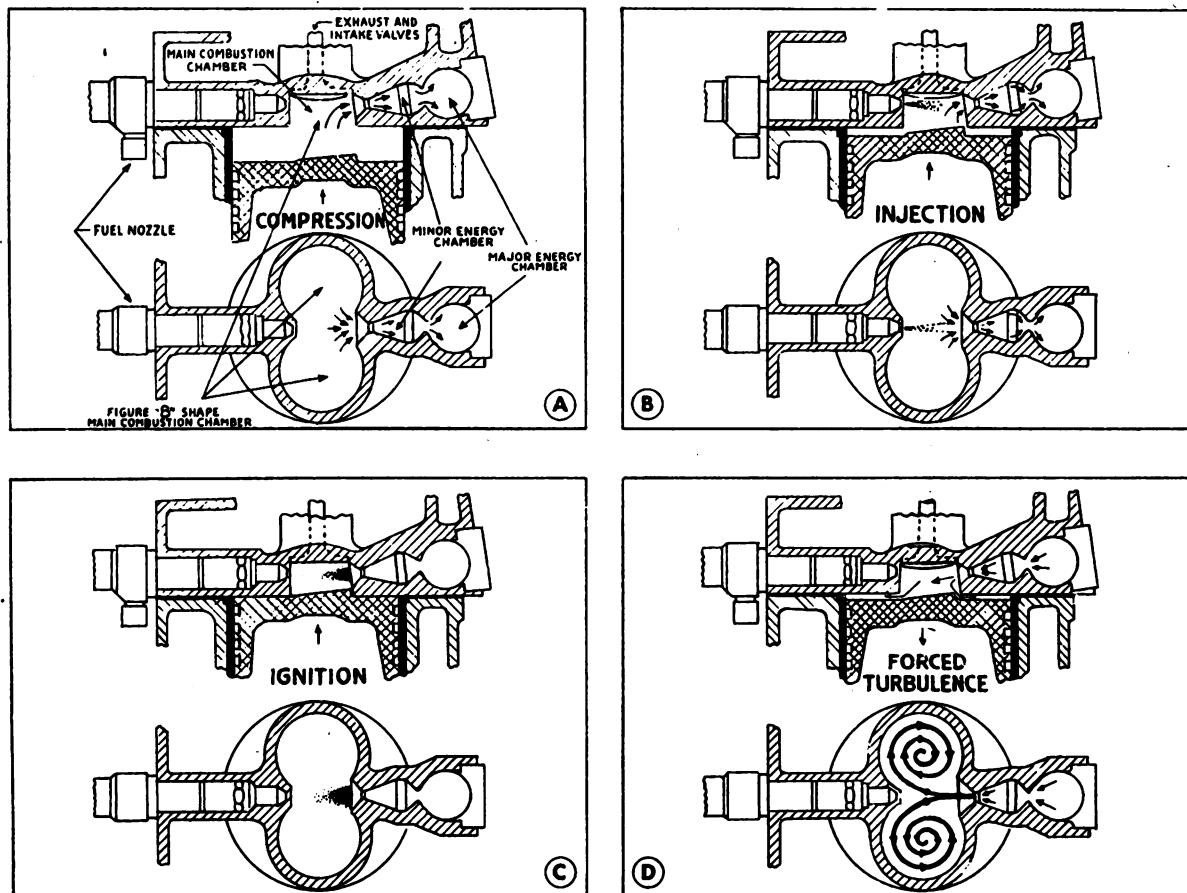

Fig. 4. Buda-Lanova Combustion Principle
**4. Low Pressure Combustion.** In the Buda-Lanova combustion chamber, the clearance volume above the piston consists of three chambers. The main chamber is in the shape of a figure 8, which also forms the housing for the intake and exhaust valves. (See Figure 4.) The two auxiliary chambers of the energy cell are located directly opposite the injection nozzle. Beginning with the compression stroke and ending with the expansion or power stroke, four events or actions take place. These are designated as (a) compression period, (b) injection period, (c) ignition period, (d) controlled turbulence period. Figure 4, with the following explanation, illustrates the occurrences during each of these four periods.
*a. Compression Period.* Referring to Figure 4, illustration A, note that the air is compressed in the main chamber and also forced into the energy cell during the compression stroke. This energy cell is divided into a major and a minor cell. A predetermined portion of air is forced back into the minor and major energy cells as indicated by the arrow.